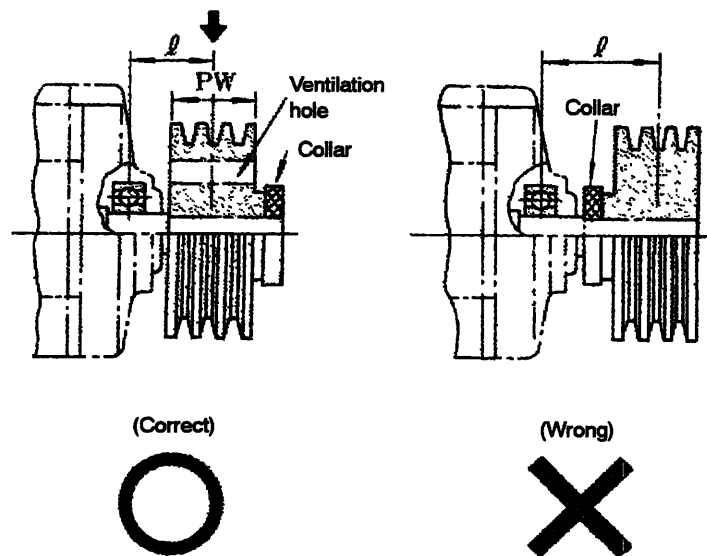

Fig. 6.4 Mounting V-belt Sheave
- In order not to restrict the natural cooling effect in the motor, use an arm type V-belt sheave as standard. When a plate type sheave is used, provide the largest ventilation hole as possible as shown in Fig 6.4.